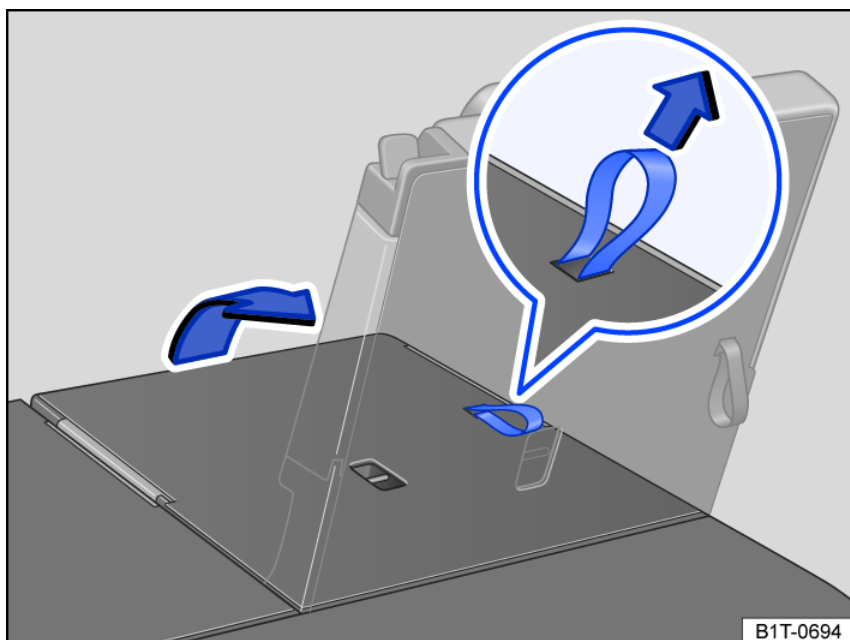

Fig. 85 Third row seat: folding the rear seat back.
- Pull on the loop on the rear seat backrest fig. 85 to fold the rear seat backrest back. **OR:** fold the rear seat backrest back from the passenger compartment.